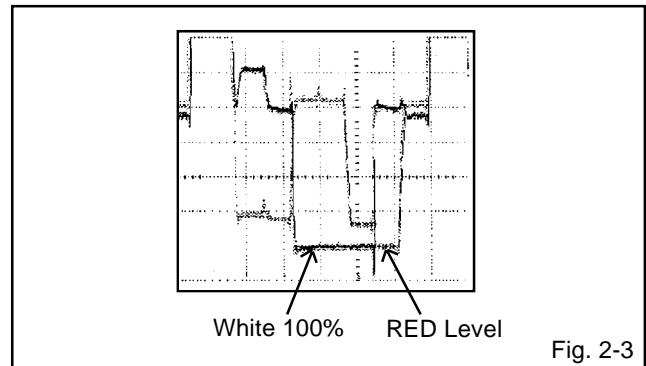

Fig. 2-3
7. Press the VOL. UP/DOWN button on the remote control until the red color level is adjusted to 100% of the white level. (**Refer to Fig. 2-3**)
12. Press the VOL. UP/DOWN button on the remote control until the red color level is adjusted to 100% of the white level. (**Refer to Fig. 2-3**)